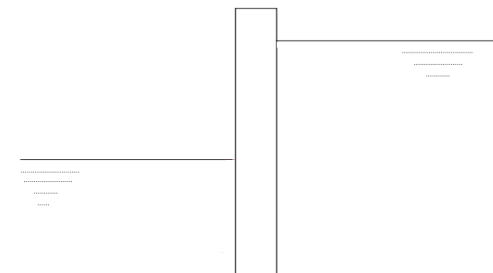

Figure Q22
c) Sketch the pressure distribution of the water on the dam wall shown in Figure Q22. Indicate the direction of the resultant force and position of the centre of pressure on both sides. [5]